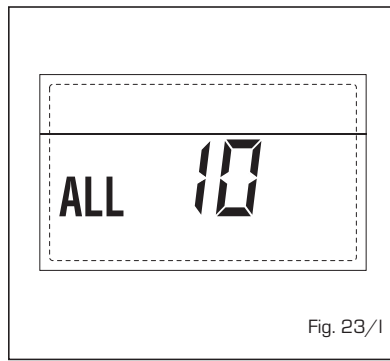

Fig. 23/i
- **ACTIVATION OF THE EXHAUST FUMES SENSOR ERROR 13** (Fig. 23/p)